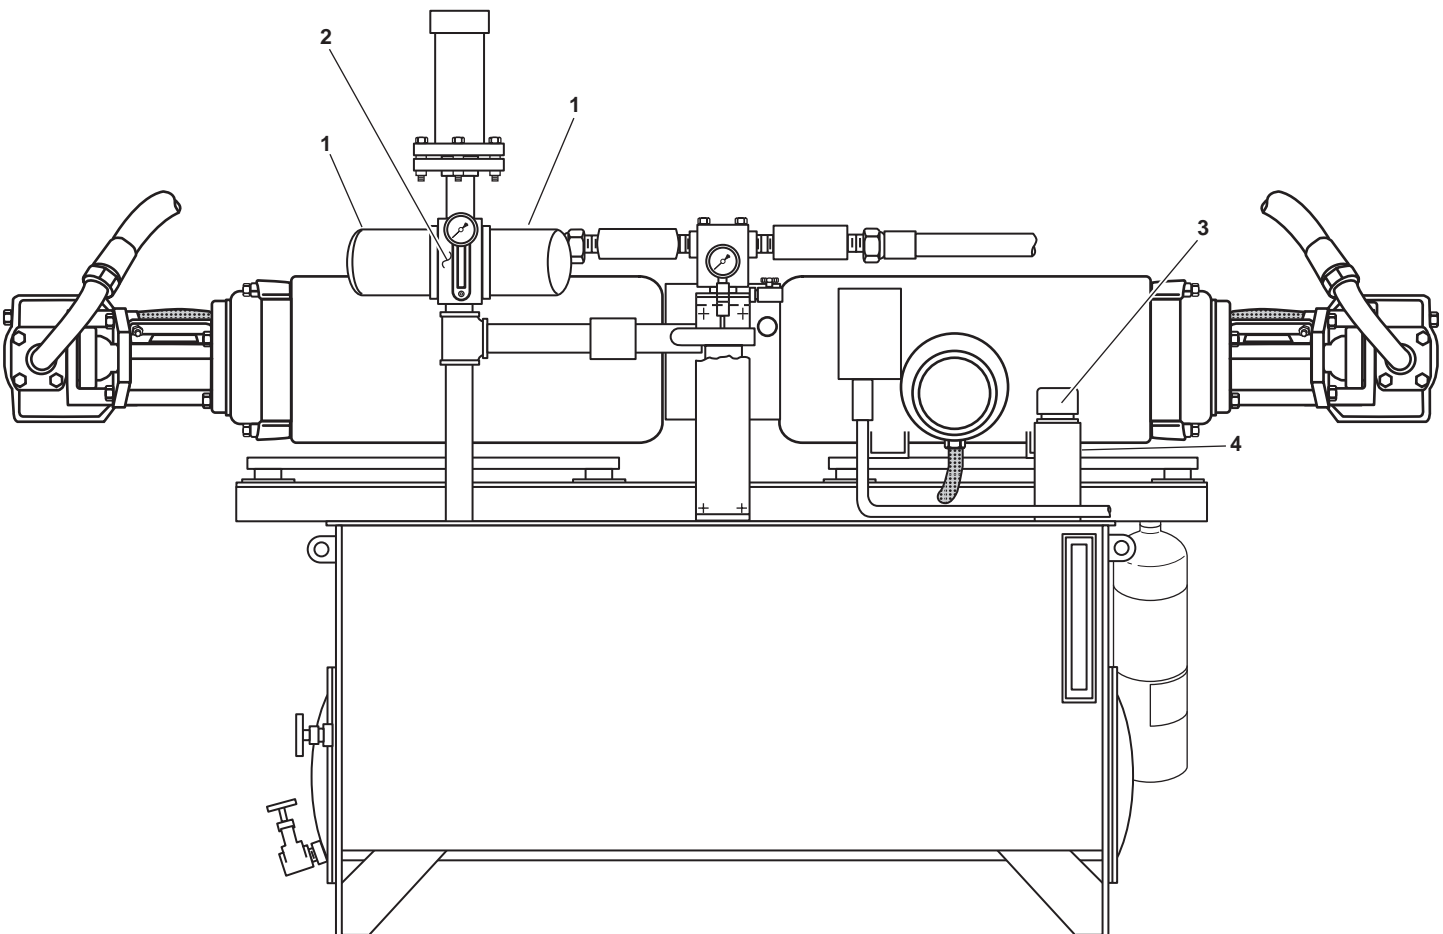

Figure 1. Central Hydraulic Power Unit
1. Place a suitable drain pan under the hydraulic filters (figure 1, item 1).
2. Remove the hydraulic filters (figure 1, item 1) from the filter base (figure 1, item 2).
3. Use dry cleaning solvent and clean wiping rags to wipe the sealing surface of the filter base (figure 1, item 2).
4. Apply a light coating of clean hydraulic fluid to the new oil filters' (figure 1, item 1) gaskets.
5. Install the hydraulic filters (figure 1, item 1) on the filter base (figure 1, item 2) until their gaskets just contact the sealing surface of the filter base. Tighten the hydraulic filters an additional 3/4 turn after their sealing surfaces contact the base.
1. Remove the breather cap (figure 1, item 3) from the filler neck (figure 1, item 4).
2. Apply a light coat of clean hydraulic oil to the breather cap (figure 1, item 3) gasket.
3. Install the breather cap (figure 1, item 3) on the filler neck (figure 1, item 4) and turn it 1/4 turn clockwise to lock it in place.